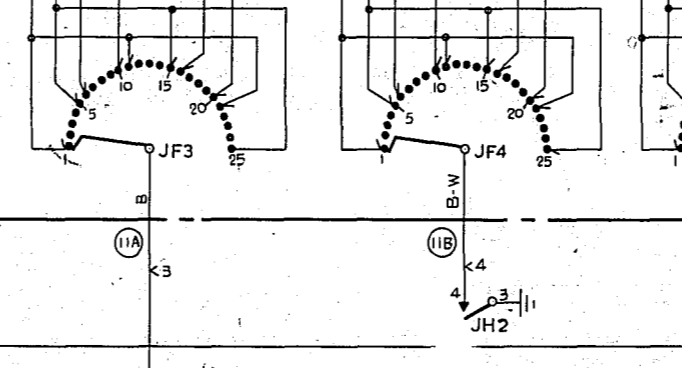

FIG. 5
PART OF FIG. 5
- FIG. 5 - 80V 1.5A PER 5 CCTS.